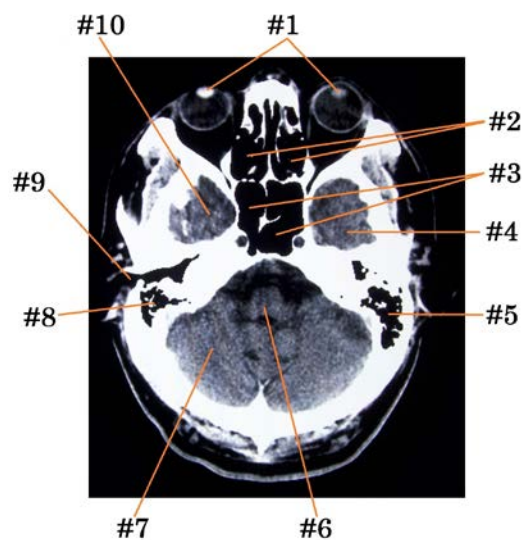

Figure 3-24. CT axial cross-sectional image of the cranium/brain.
3. Identify the lower cranium/brain cross-sectional anatomy displayed in figure 3-24.